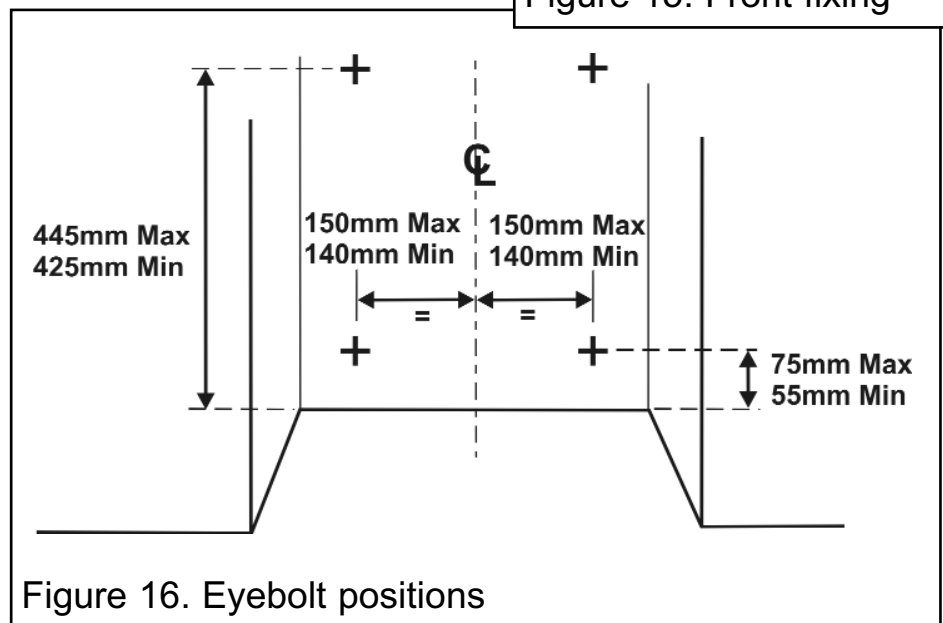

Figure 16. Eyebolt positions
2. Drill four holes in the rear wall of the fireplace for the wall plugs. The holes should be drilled within the range of positions shown in figure 16 using a suitably sized masonry drill bit for the wall plugs supplied. The holes should be equidistant each side of the centre line of the fireplace to ensure that the appliance finishes centrally in the opening when tension is applied to the cables.